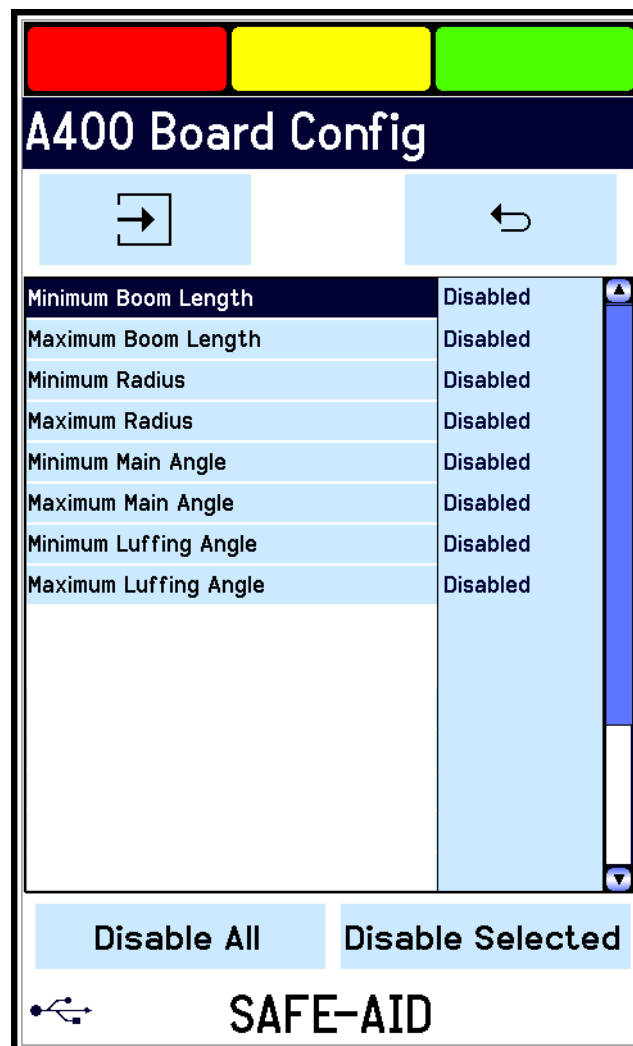

Figure 17
WORKING OPERATIONS – FIGURE 17 & 18
9. **User Limit Setup** – Press the screen in the bottom left-hand corner to access the User Limit Setup screen (Figure 17). Highlight the required limit to be set by pressing on the description, press the Select button to access the keypad and type in the limit that is required. Once all the limits have been set press the Back button to return to the working screen. To disable the limit, highlight the limit by pressing on the description and press the **Disable Selected** button this will then put Disabled next to the description and the limit will now be disabled. To disable all limits, press the **Disable All** button.